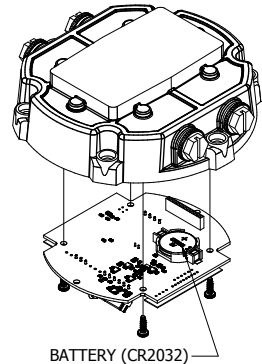

Figure 19
- Remove and replace the coin cell battery (CR2032) on the back side of PC board (see Figure 19).
- Reverse the procedure to reassemble the cover plate to the base. Make sure the cover plate seal is seated before tightening the (6) cover plate screws.